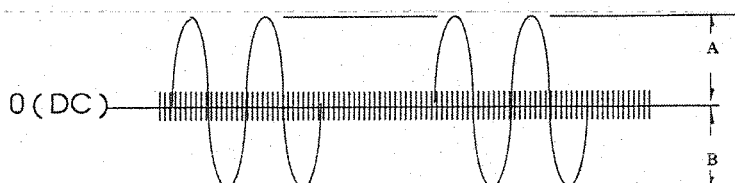

FIG. 2
Note :The test unit should be keep in recording mode and added two resistors Ra & Rb as shown in the Fig. 2 before alignment. be sure to delete the both resistors Ra & Rb after alignment completed.
- 5.4 - The symmetrical wave height (A almost equal B) as shown in FIG. 2.